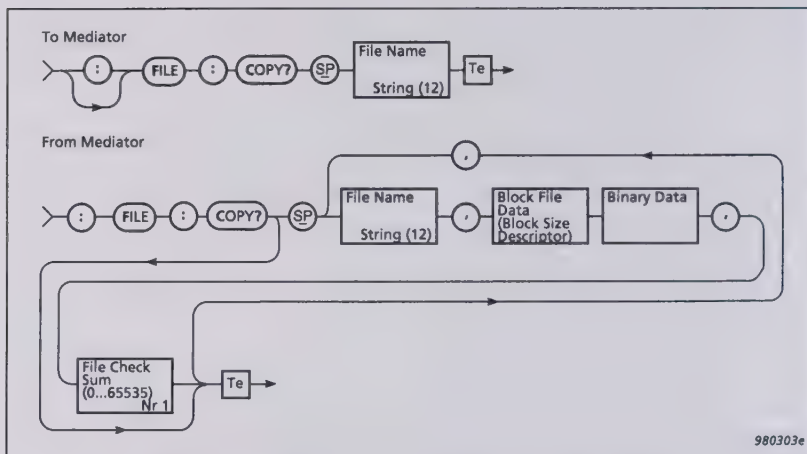

Fig. 11.14 Syntax for the *File:Copy* command
**Copy?** is used for getting one or more files from the Mediator File Manager. You can specify a block of files by using the "\*" and "?" wild card characters. The syntax for the **Copy?** query is shown in Fig. 11.14.